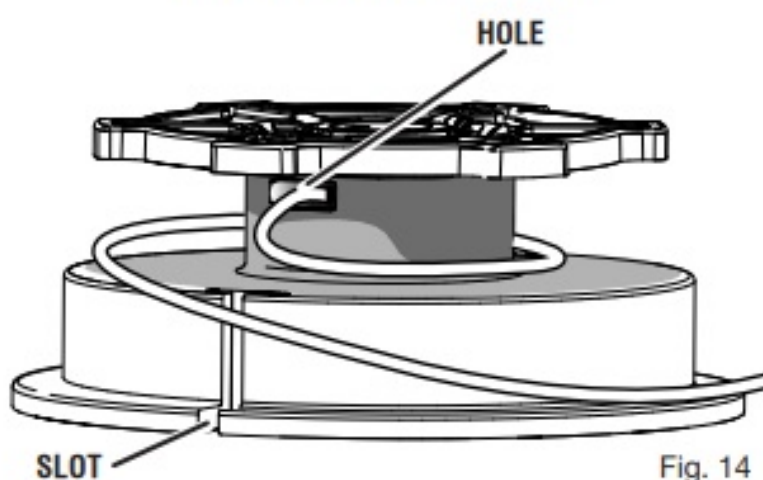
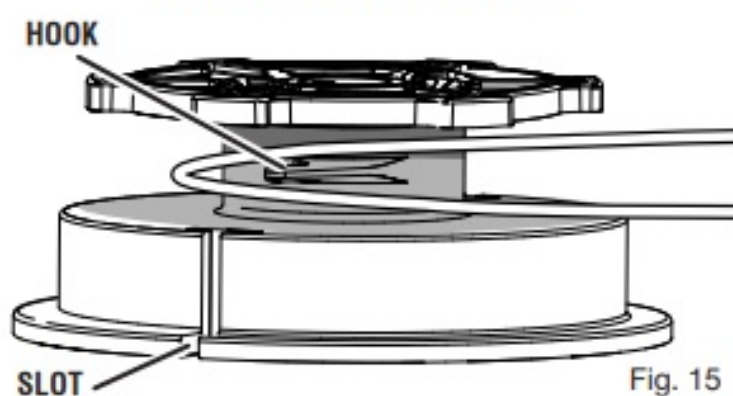

Fig. 14
Fig. 15
- For the MightyLite 26CS: Cut one piece of trimmer line 9 ft. long. Find the hole in the center of the spool (figure 14). Insert one end of the line into the hole. Carefully wind the string in the direction indicated on the top of the spool. Nearing the end of the string, slide the end of the string into the nearest open slot on the spool. Do not overfill. For the MightyLite 26SS: Cut one piece of trimmer line 18 ft. long. Find the middle of the string section. Loop the string around the hook in the center of the spool (figure 15). Carefully wind the string in the direction indicated on the top of the spool. Nearing the end of the string, slide one end of the string into each slot of the spool. Do not overfill.